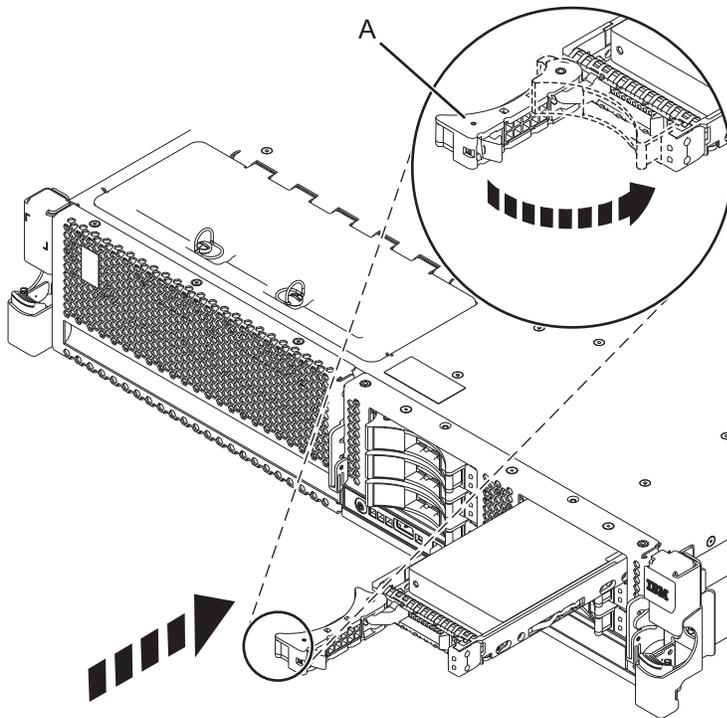

Figure 12. Installing the disk drive in the 8231-E2B, 8231-E1C, or 8231-E2C
10. Slide the disk drive all the way into the system or expansion unit, and push the disk drive handle (A) in until it locks, as shown in Figure 12. The service indicator on the disk drive turns on.